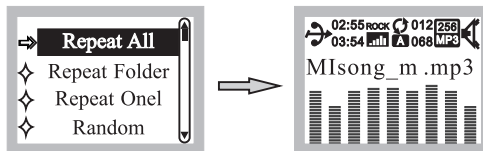

Fig. 12
- (F) Repeat Mode: Press PRV/TEN  or NEXT/TEN  to select parameter, Fig. 12.
- (1) Repeat All:  .
- (2) Repeat Folder:  .
- (3) Repeat One:  .
- (4) Random:  .